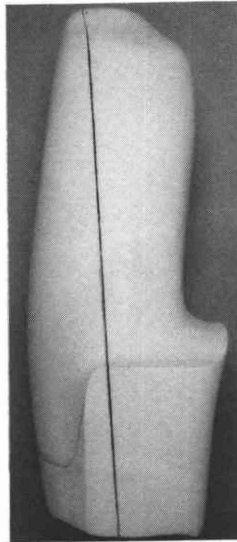

Figure 8. Posterior view of modified model.
5. Long's Line is drawn from center of M-L (see chart) to center of distal femur (Figure 8). (Distal femur will be very close to lateral surface, probably covered only by skin.)